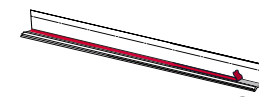

Figure G3
• Clean the top surfaces of the car and allow to dry. Remove the red backing tape from the underside of aluminium rails **Refer Figure G3**